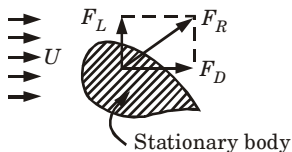

Fig. 3.31.1.
1. As shown in Fig. 3.31.1, consider a body held stationary in a real fluid, which is flowing at a uniform velocity U .